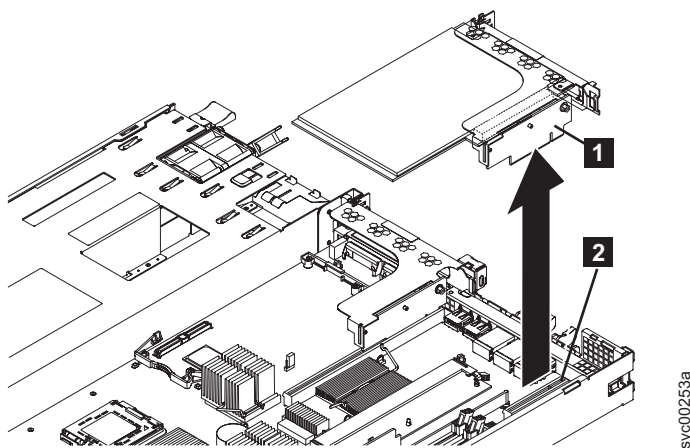

Figure 173. Removing the fibre-channel riser-card assembly for the SAN Volume Controller 2145-CF8
10. After removing the back-rail retaining screws for the adapter assembly, grasp the riser-card assembly at either end and pull up out of the slot 1 riser-card connector, as shown in Figure 173. Once the riser card clears the connector, gently twist the card assembly to separate the assembly from the node.